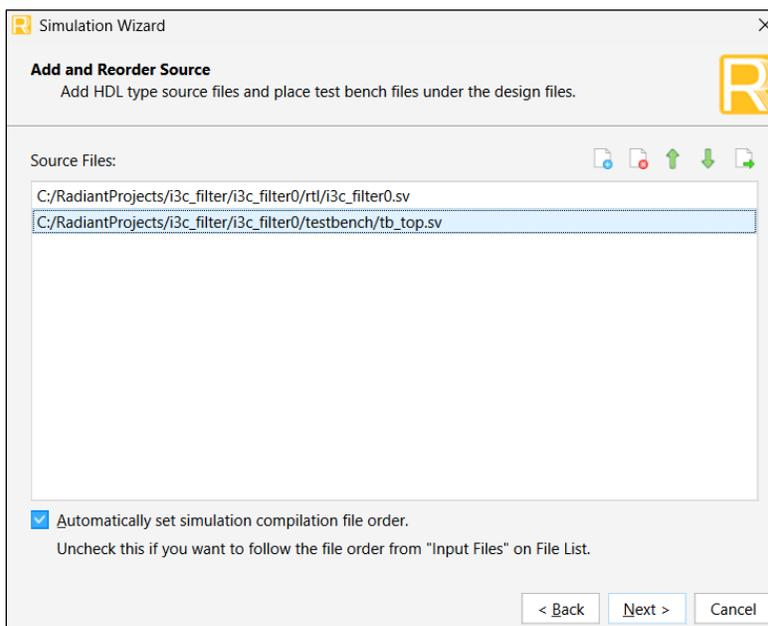

Figure 7.5. Adding and Reordering Source
2. Click **Next** to open the **Add and Reorder Source** window as shown in Figure 7.5. Adding and Reordering Source.